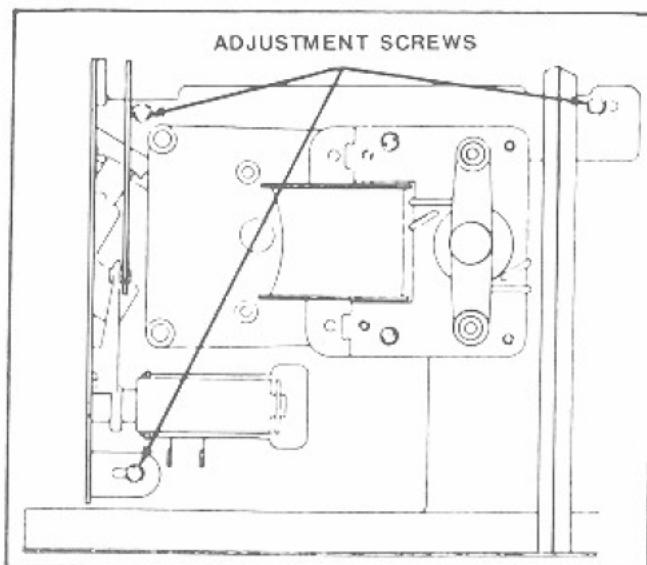

Figure 6-15. Magazine Adjustment
5. With sprag wheel locked, move the magazine until the disc is centered between belt guides (The adjustment screws will be approximately centered in the slots, *see figure 6-15*).